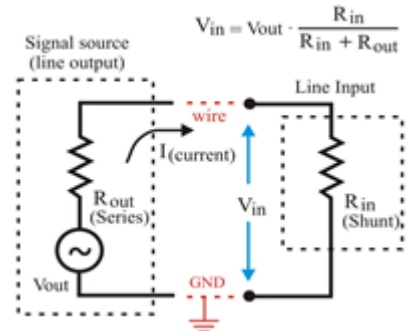

Figure 3. Line-output and line-input impedances form a voltage divider.
- Cables between line output and line input are generally extremely short compared to the audio signal wavelength in the cable. So, there are no transmission lines effects and no impedance matching required. However, line level circuits use the impedance bridging principle, in which a low impedance output drives a high impedance input. A typical line out connection has an output impedance from 100 to 600 Ω. Line inputs present a much higher impedance, typically 10 kΩ or more. The two impedances form a voltage divider (see figure 3) with a shunt element (R_{in}) having a large resistor value relative to the resistor value of the series element (R_{out}), which ensures that little of the signal is shunted to ground and that current requirements are minimized. Most of the